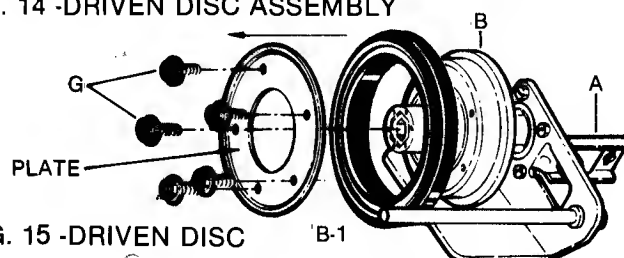

FIG. 15 - DRIVEN DISC
Remove the five machine screws (G) and plate securing the driven disc rubber ring (B-1) to the hub (B) and replace the ring as shown in FIG. 15. Reverse procedures for re-assembly and installation.